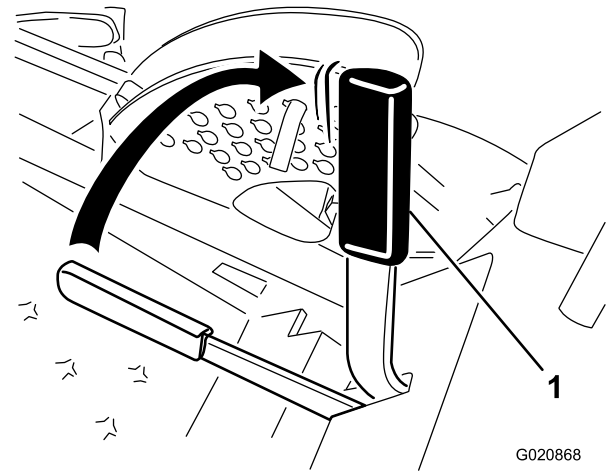

Figure 14
2. Pull up and back on the parking brake lever to set the parking brake (Figure 14).